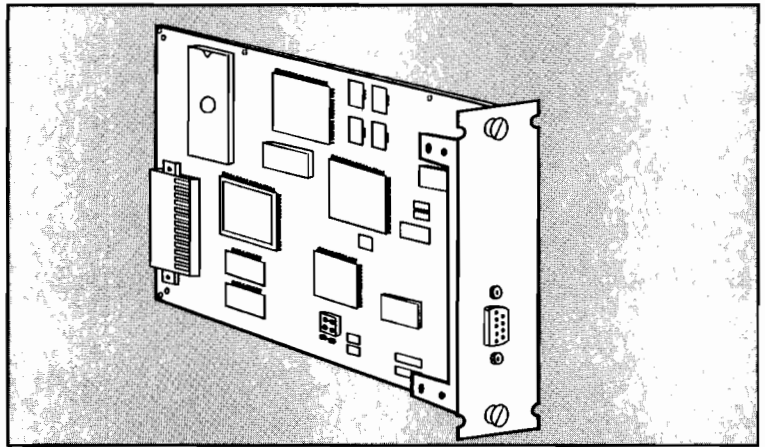

Figure 3-10. Identifying the Token Ring Adapter Card
1. Get the adapter card. The part number for the Token Ring adapter card is C2059D. See Figure 3-10.